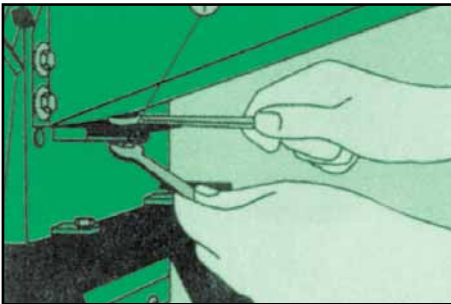

Fig. 1
Periodic tightening of screws as well as the adjustment of the counter cutting blades are essential. The adjustment is done by loosening the hexagon nut (1) as in figure 1 and